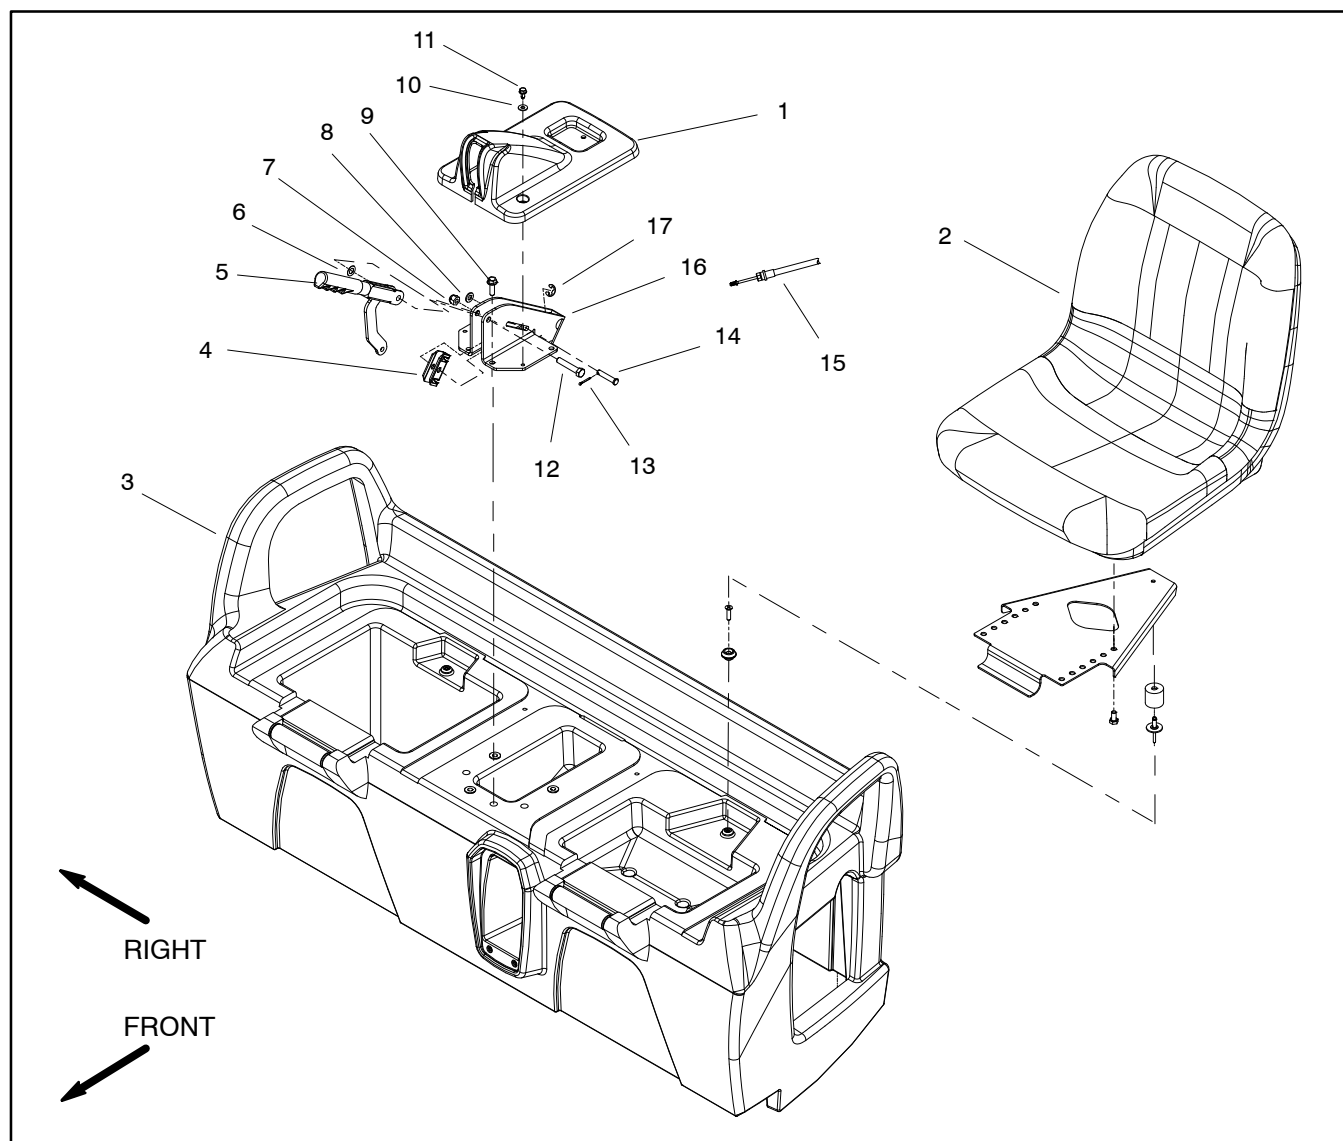
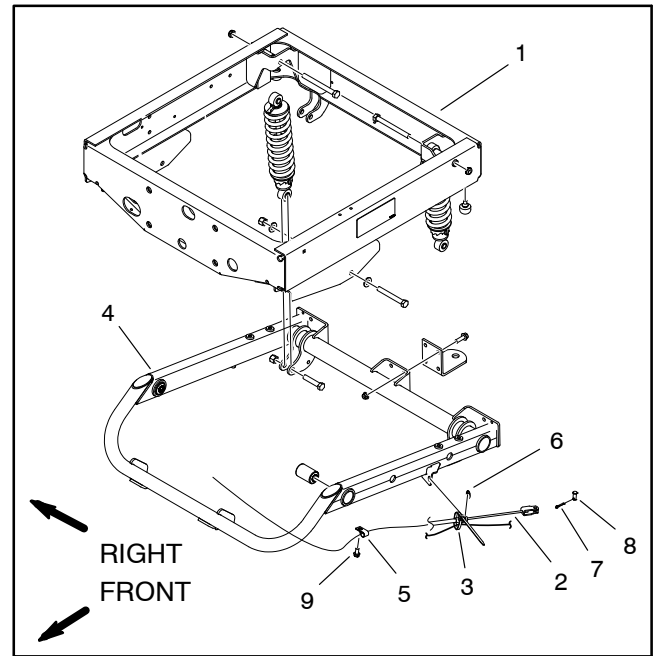

Figure 26
Figure 27
Disassembly (Fig. 26)
2. Disconnect both brake cables from rear of machine (Fig. 27):
5. Remove four (4) flange head screws that secure parking brake support to seat base.
7. Remove brake cables from parking brake support and cable equalizer bracket using Figure 26 as a guide.
Assembly (Fig. 26)
1. Secure brake cables to parking brake support and cable equalizer bracket using Figure 26 as a guide.
3. Secure parking brake support to seat base with four (4) flange head screws.
5. Secure brake cables to rear of machine (Fig. 27):